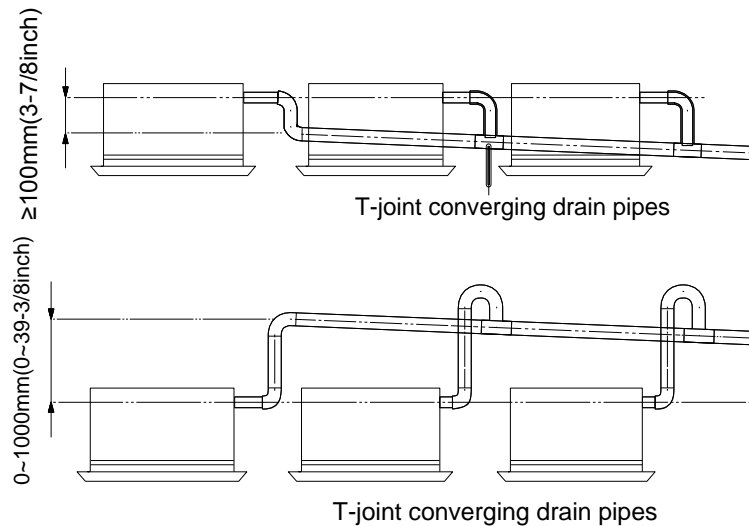

Figure 3-1-51
(3) When unifying multiple drain pipes, install the pipes as Figure 3-1-51. Select converging drain pipes whose gauge is suitable for the operating capacity of the unit (take the cassette type unit for example).